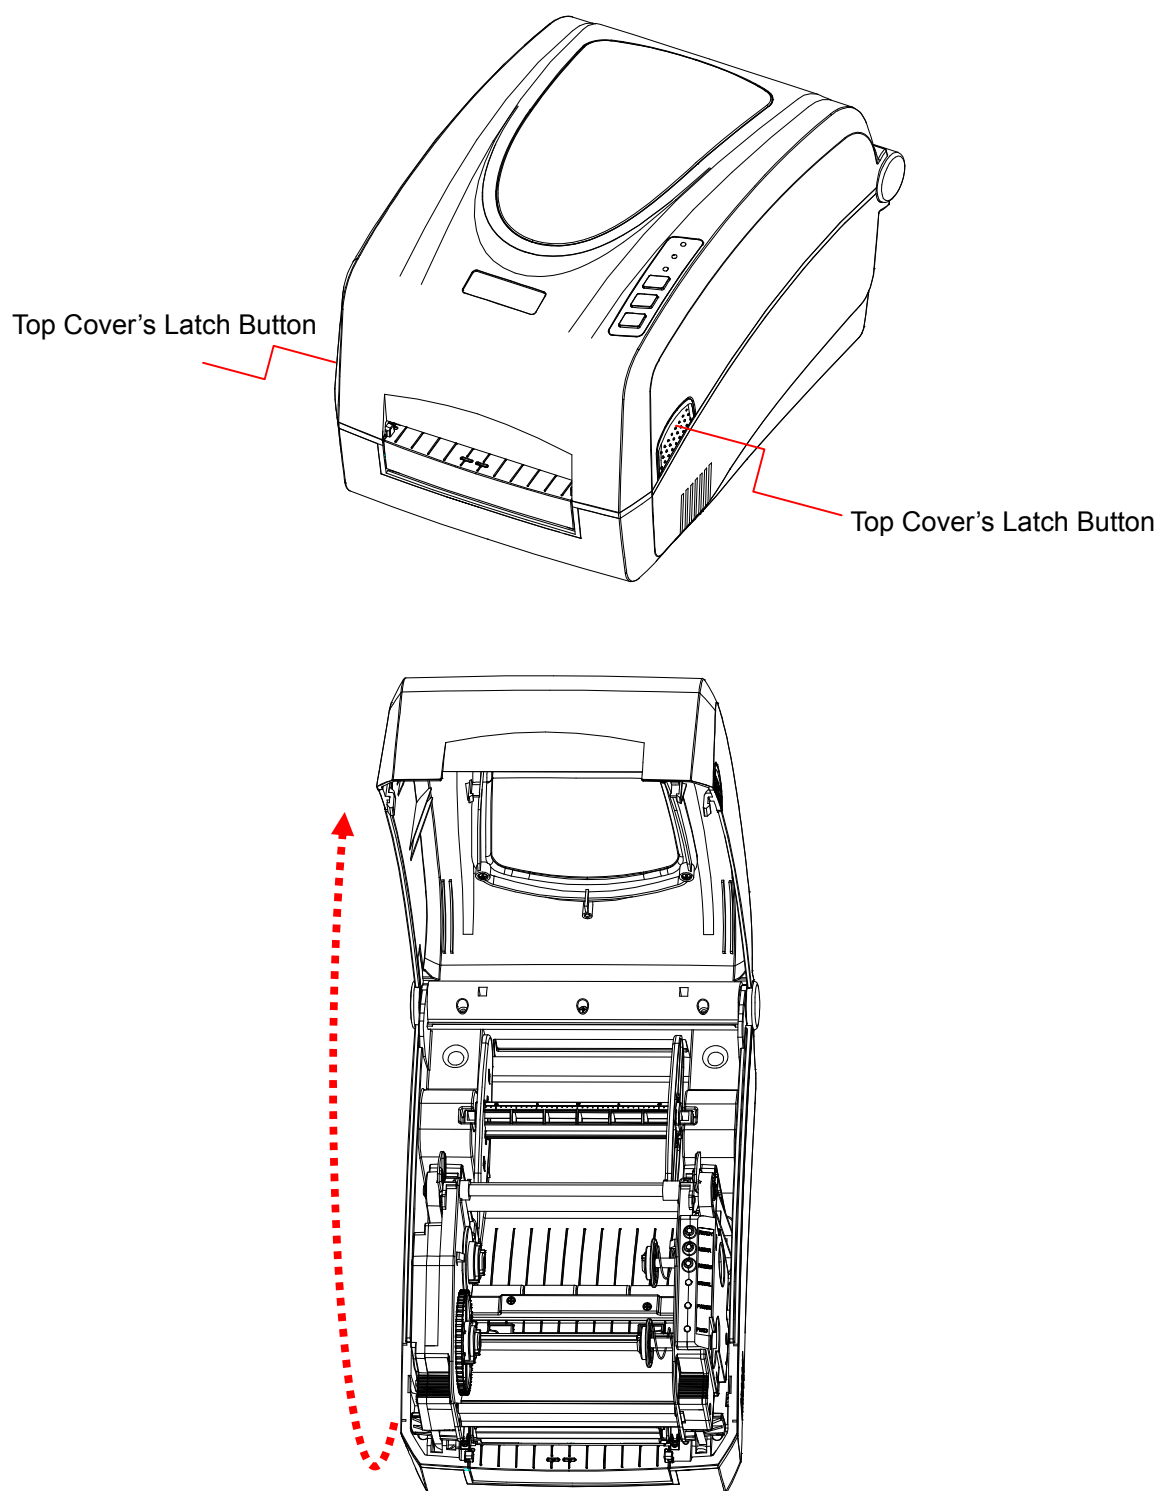

Figure 5-1
1. Push the left and right Top Cover's Latch Button to lift the top cover. (see Figure 5-1)